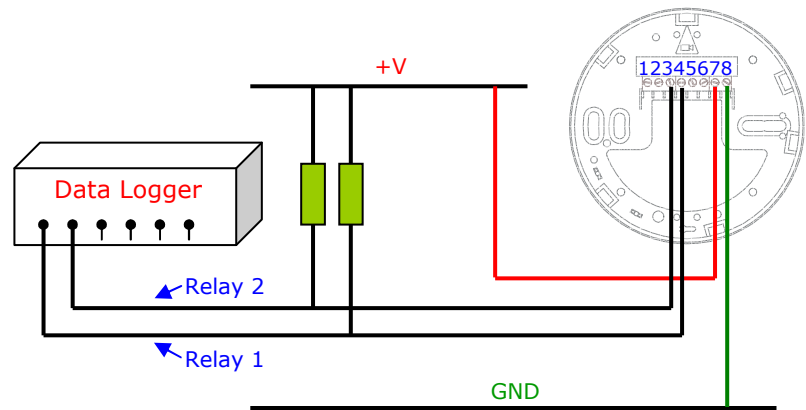

Fig. 2
- 1.4 Connect the counter wiring as shown in Table 1. A single unit installation example is also shown below in Fig. 2. The power supply should be grounded. Note: the pull up resistors are usually required, but may already be incorporated into your data logger - contact your data logger manufacturer for guidance.